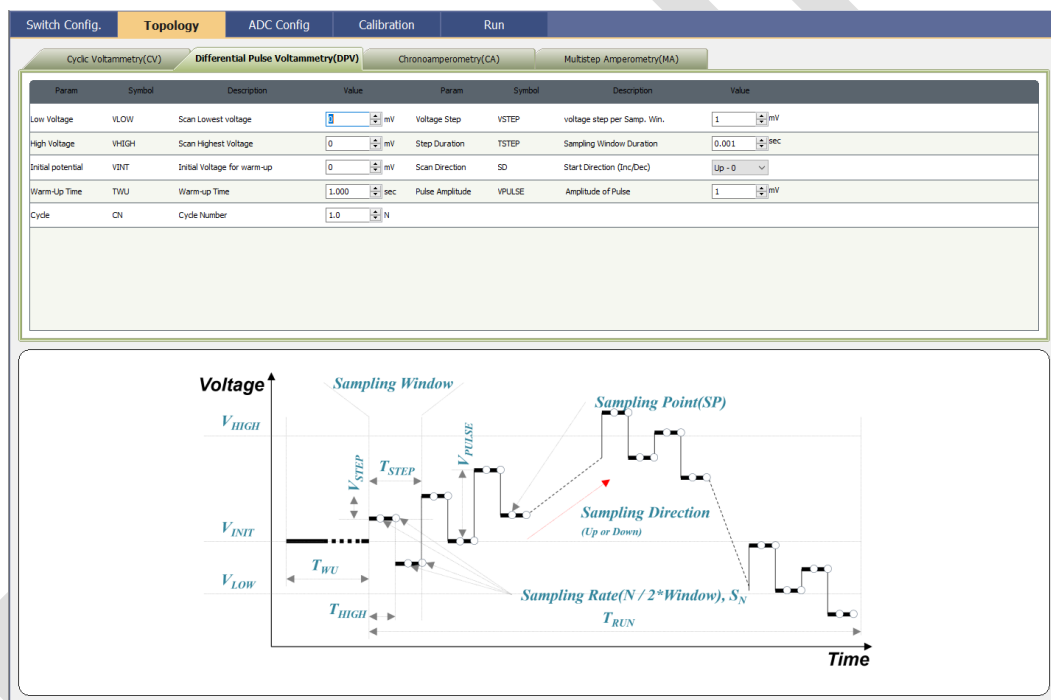

Figure 8 Topology DPV
- **DPV Selection:** When DPV is chosen in the Topology Tab, the interface updates as shown in Figure 8. For specific DPV parameters, refer to Table 2.